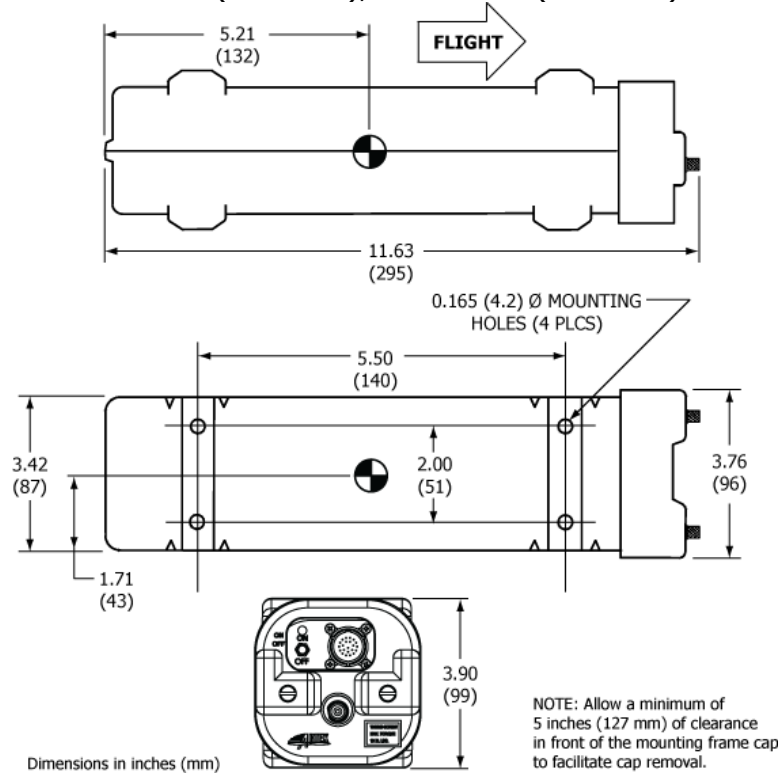

Figure 14 C406-N Series ELT Outline and Dimensions
- 1) Select a suitable location for the mounting tray. See Figure 14 C406-N Series ELT Outline and Dimensions on page 48. Refer to these dimensions when determining mounting location.
- 4) Mark the four holes needed for mounting the tray, using the tray as a pattern. The hole pattern is also illustrated in Figure 14 C406-N Series ELT Outline and Dimensions on page 48.